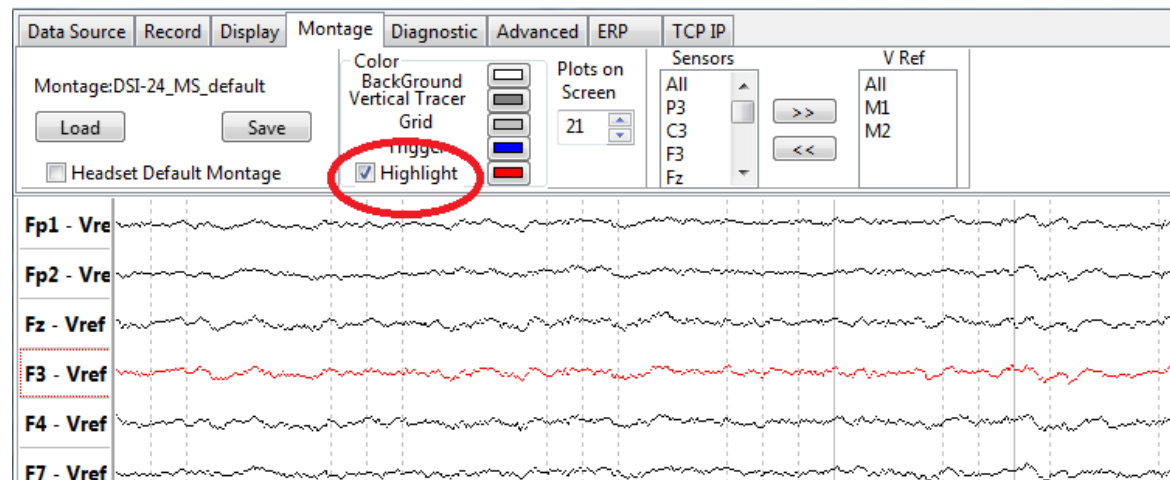

Figure 34 – Highlighting a Channel
- Check the checkbox, as circled in red in Figure 34.
- In Figure 34, Channel "F3 – Vref" was highlighted in red.